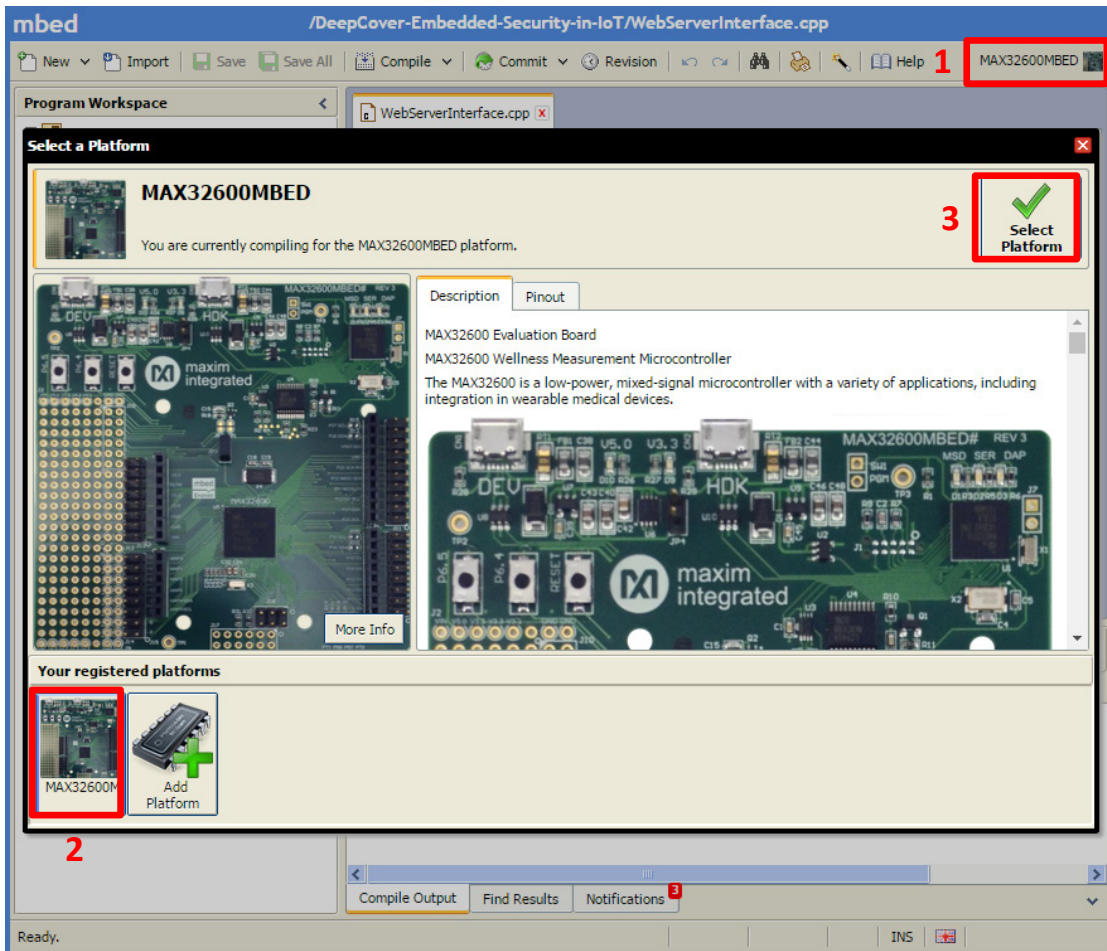

Figure 3. Selecting the MAX32600MBED as the compiler target.
- Return to the online compiler page, and select the MAX32600MBED as the compiler target by the following steps in **Figure 3**: